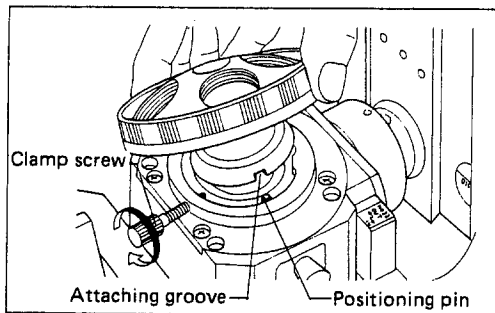

Fig. 3-1
**① Revolving nosepiece (Fig. 3-1)**